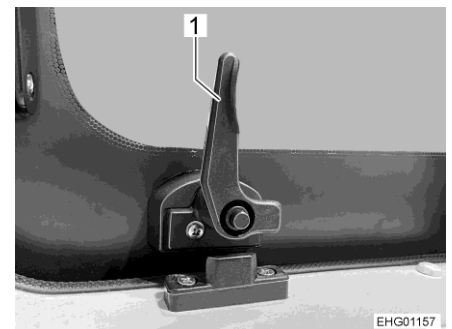

Fig. 18 Lock, open
- Open all locks (Fig. 18,1).
- Close all locks (Fig. 18,1).